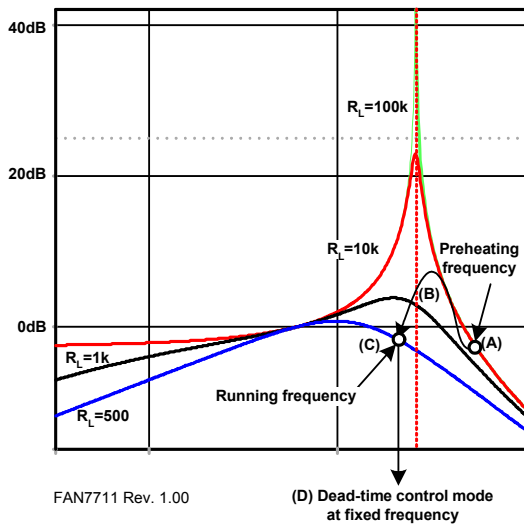

Figure 19. LCC Transfer Function in Terms of Lamp Impedance
The transfer function of LCC resonant tank is heavily dependent on the lamp impedance, R_L , as illustrated in Figure 19. The oscillator in FAN7711 generates effective driving frequencies to assist lamp ignition and improve lamp life longevity. Accordingly, the oscillation frequency is changed in the following sequence:
Before the lamp is ignited, the lamp impedance is very high. Once the lamp is turned on, the lamp impedance significantly decreases. Since the resonant peak is very high due to the high-resistance of the lamp at the instant of turning on the lamp, the lamp must be driven at higher frequency than the resonant frequency, shown as (A) in Figure 19. In this mode, the current supplied by the inverter mainly flows through C_P . C_P connects both filaments and makes the current path to ground. As a result, the current warms up the filament for easy ignition. The amount of the current can be adjusted by controlling the oscillation frequency or changing the capacitance of C_P . The driving frequency, f_{PRE} , is called preheating frequency and is derived by:
After the warm-up, the FAN7711 decreases the frequency, shown as (B) of Figure 19. This action increases the voltage of the lamp and helps the fluorescent lamp ignite. The ignition frequency is described as a function of C_{PH} voltage, as follows:
Finally, the lamp is driven at a fixed frequency by an external resistor, R_T , shown as (C) of Figure 19. If V_{DD} is higher than $V_{DDTH(ST+)}$ and UVLO is released, the voltage of R_T pin is regulated to 4V. This voltage adjusts the oscillator's control current according to the resistance of R_T . Because this current and an internal capacitor set the oscillation frequency, the FAN7711 does not need any external capacitors.
Even in the active ZVS mode, shown as (D) in Figure 19, the oscillation frequency is not changed. The dead-time is varied according to the resonant tank characteristic.